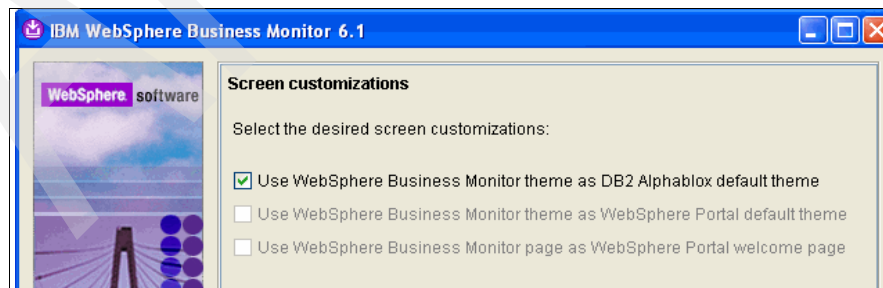

Figure 3-28 WebSphere Business Monitor installation: Screen customizations
11. In the Screen customizations panel (Figure 3-28), click **Next**.